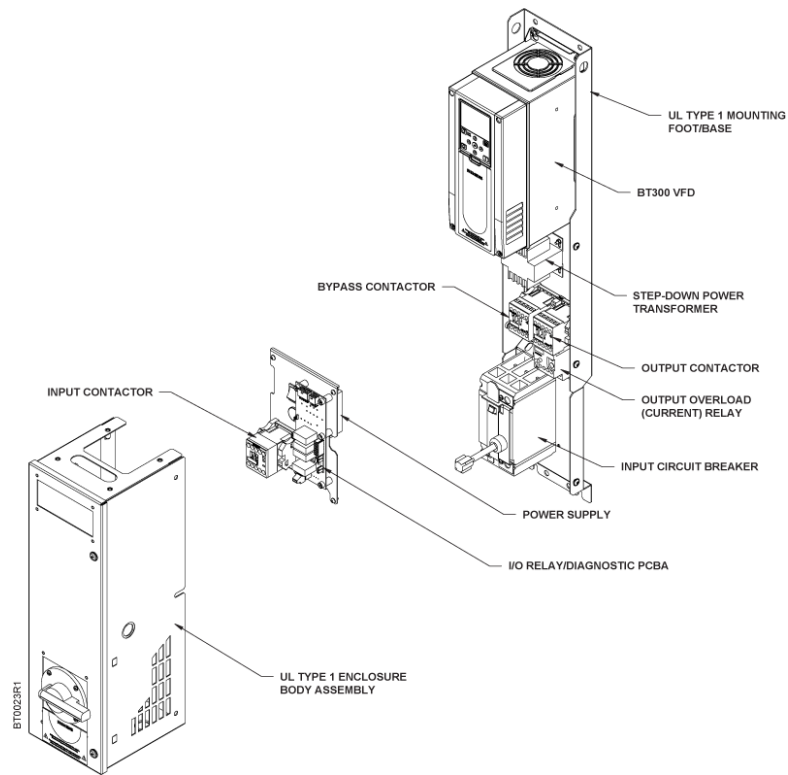
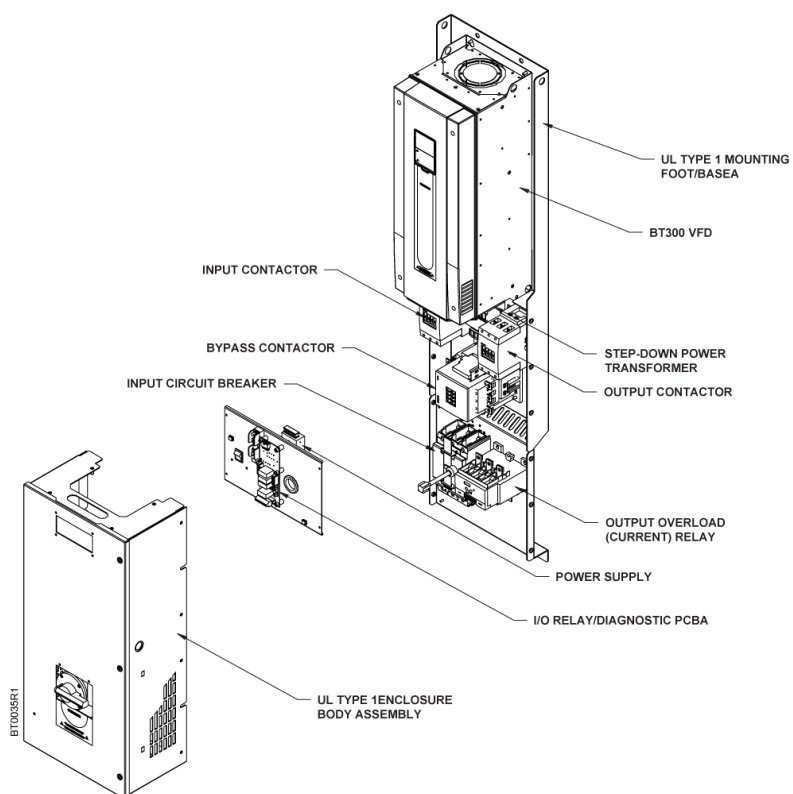
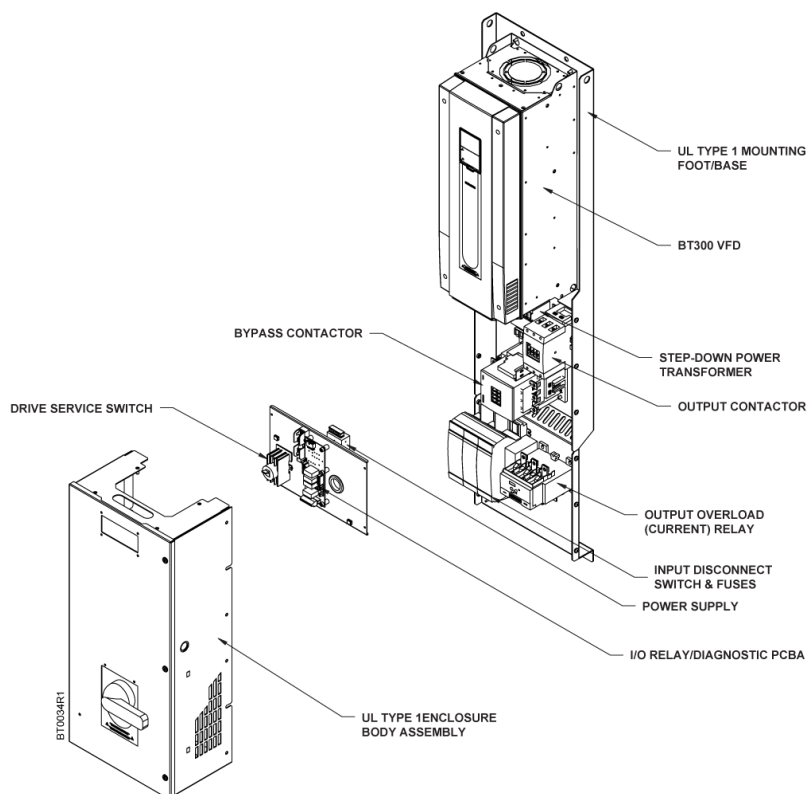

Figure 8. FS4 E-Bypass with Circuit Breaker Components.
Figure 14. FS7 E-Bypass with Circuit Breaker Components.
Figure 15. FS7 E-Bypass with Disconnect with Fuses Components.
- For Electronic Bypass, see Figure 8 through Figure 15.
5. Route motor wiring in conduit, through knockout, and into housing (see Figure 8 through Figure 14).
- See Figure 8 through Figure 15 for Electronic Bypass.